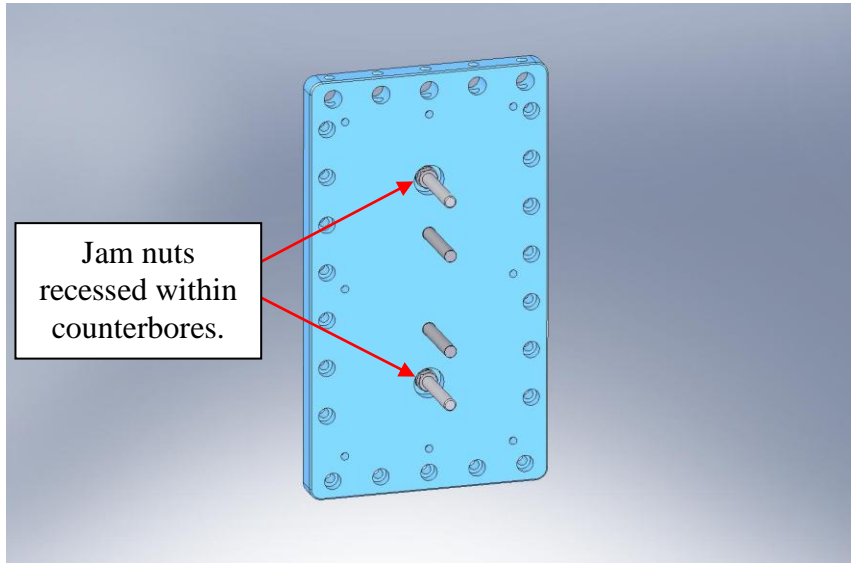

Figure 2.10. Dowel pins and fixturing bolts on the Outer Walls, Small Panel.
- Press (2) 1/2"x4.0" dowel pins (McMaster-Carr #90145A729) into each of (9) **Outer Walls, Small Panel** (D071059). Pin should come flush with back surface of wall.
- Thread (2) hex bolts through the back side of each **Outer Wall, Small Panel**. Torque the bolts to final spec. Tighten (2) jam nuts on the other side of the **Wall**, as shown in Figure 2.10. Torque the nut to final spec. Use vented washers on both sides.